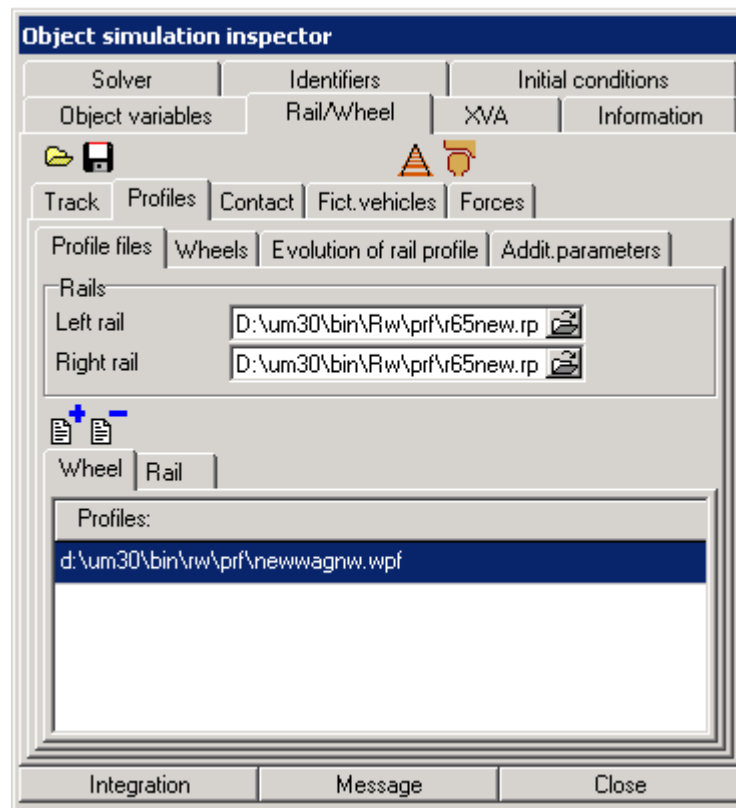

Figure 1.2. Rail and wheel profiles
3. Point to the **Profiles** and then **Profile files** tabs, see Fig. 1.2.